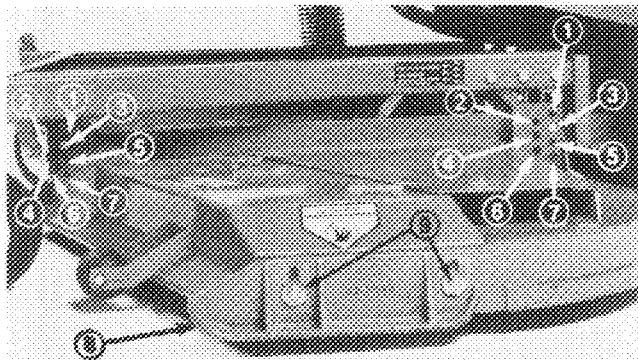

Figure 14
The height-of-cut is adjustable from 1 to 4 inches (25 to 102 mm) in 1/2 inch (13 mm) increments by relocating four clevis pins in different hole locations in brackets at each corner of the cutting unit (Fig. 14).
2. Adjust skid by loosening flangenuts, positioning skid as desired, and retightening flangenuts (Fig.14).